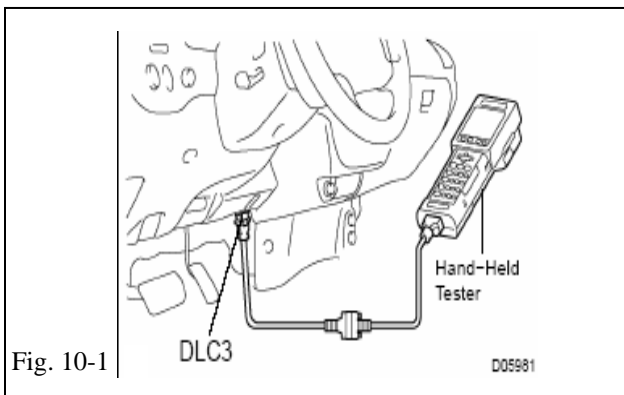

Fig. 10-1
(b) Connect the hand-held tester to DLC3. (Fig. 10-1)
- Connect the Techstream to DLC3, as in Fig. 10-1.